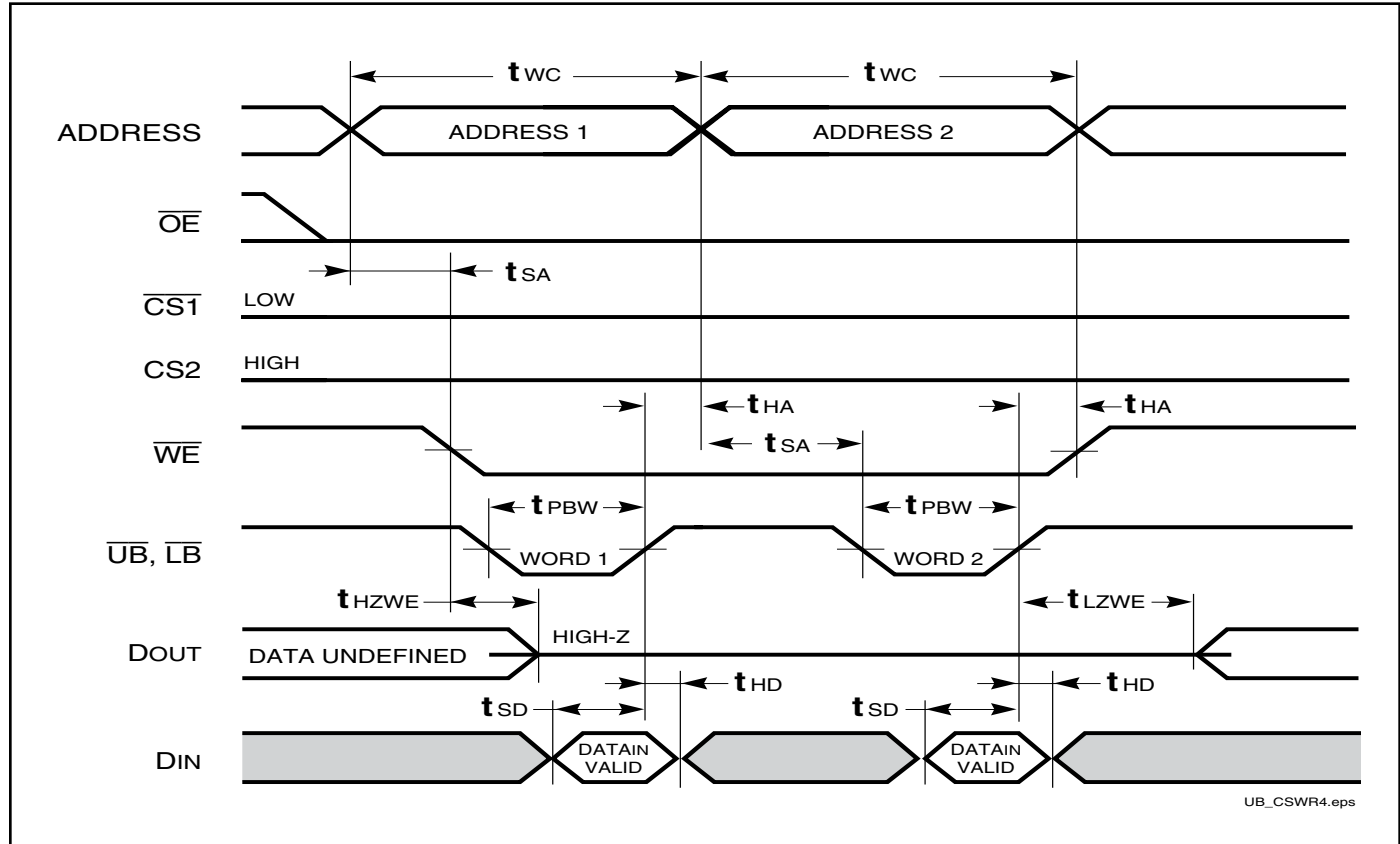
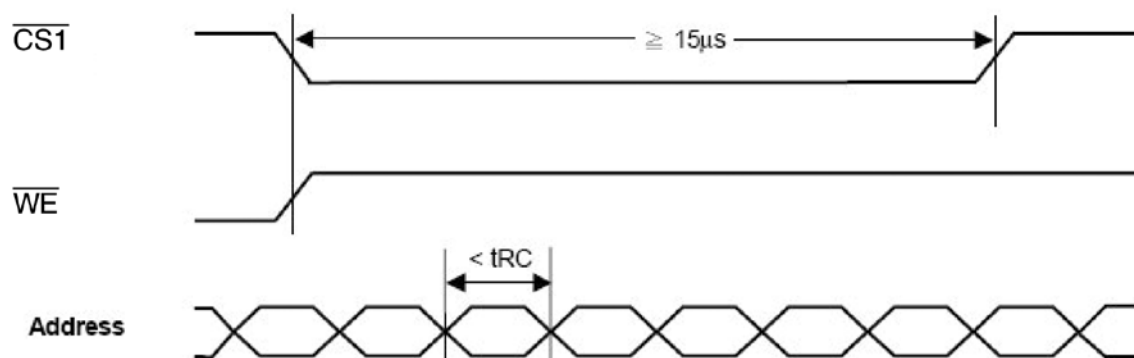

Figure 1: Avoidable Timing
Figure 2:
1. Test conditions assume signal transition times of 5 ns or less, timing reference levels of 0.9V/1.5V, input pulse levels of 0.4 to V_{DD}-0.2V/0.4V to V_{DD}-0.3V and output loading specified in Figure 1.
3. Tested with the load in Figure 2. Transition is measured ± 100 mV from steady-state voltage. Not 100% tested.
Please avoid address change for less than t_{RC} during the cycle time longer than $15\mu\text{s}$ (Figure 1). Figure 2 & 3 provide work around solution for this issue.